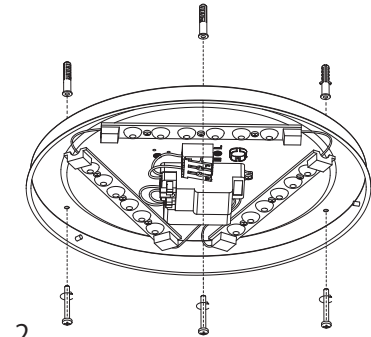

fig. 2
- fig. 2:** Hold bracket against the wall and mark drill points, drill the holes, insert the dowel. Use suitable material for wooden walls or lightweight walls. Insert the cable through the hole in the base plate. Fasten the base plate with screws.